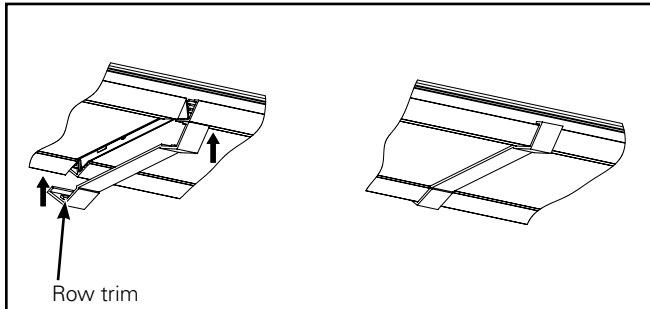

Figure 14.
- Remove protective film from the waveguide. Install Trim provided, between waveguides. (Figure 14.)